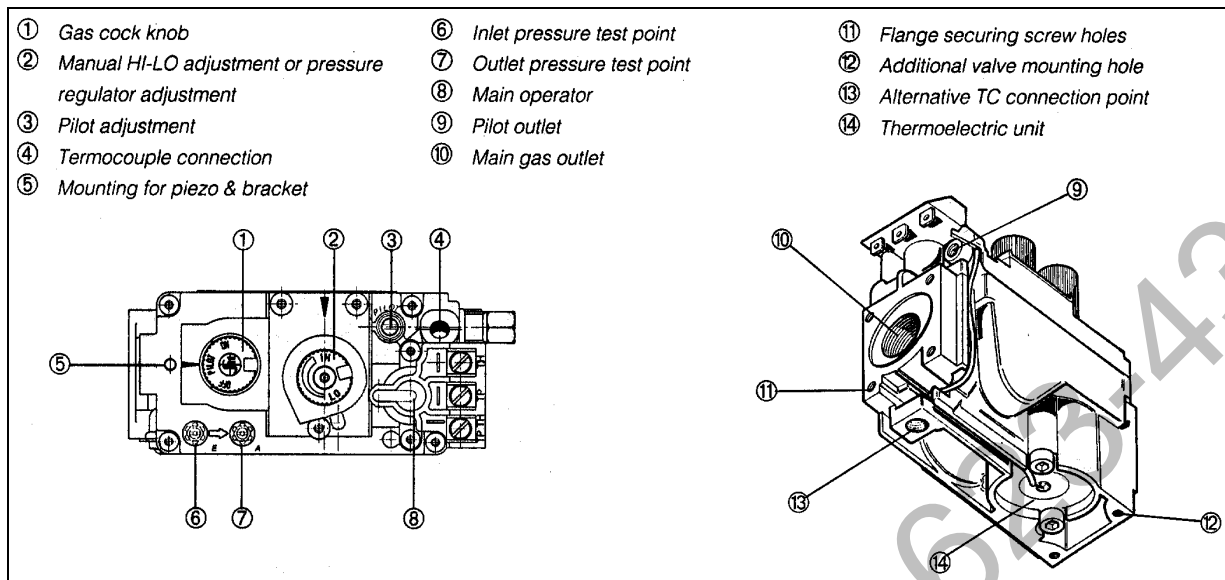

FIGURE 8
Once connected to the gas supply, the gas inlet pressure and manifold gas pressure must be tested. The gas inlet tap (6) and manifold pressure tap (7) is located on the control valve (see Figure 8). Connect a manometer to the test points on the gas control valve.